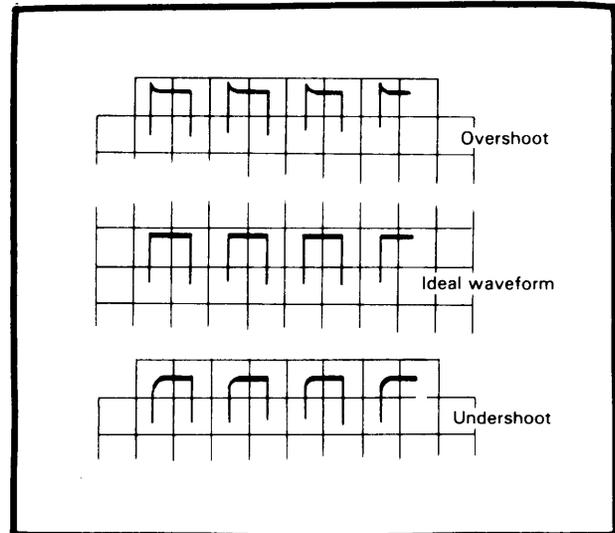

Fig. 13. Probe Compensation Waveform.
4. Adjust compensation trimmer on probe for optimum square wave form (minimum overshoot, rounding off, and tilt) as shown in Fig. 13.